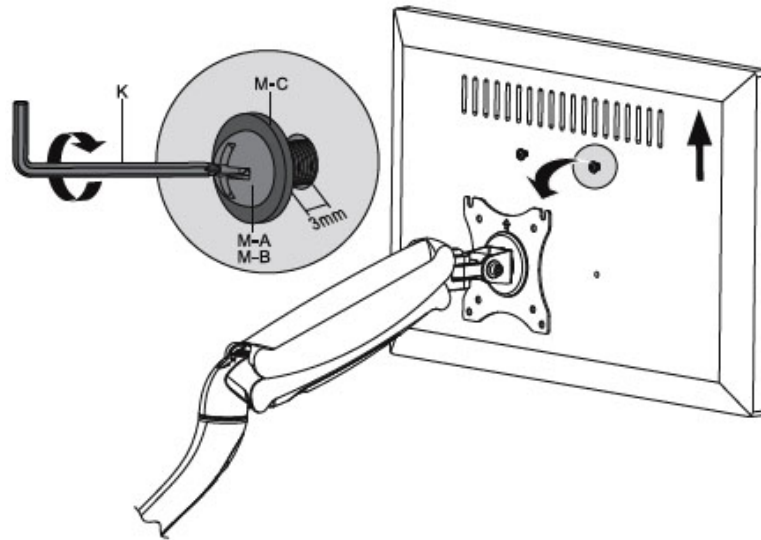

Figure 7
1. Install Washer (M-C) with either M4x12 Bolt (M-A) or M5x12 Bolt (M-B) into the monitor's upper mounting holes, tighten them using Allen Key (K) or a Phillips screwdriver leaving 3mm gap, see Figure 7.
2. Turn the VESA plate so that the slotted mounting holes are facing up, then mount the monitor onto the VESA plate, see Figure 7.